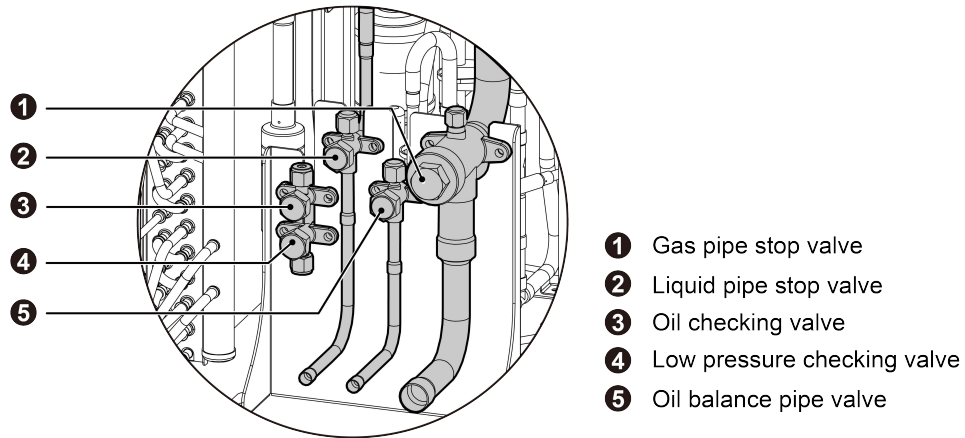

Fig.42
- (2) When there are more than 2 outdoor units, air purging from the nozzle located on the oil balance valve. Confirm outdoor oil balance valves are closed. See Fig.42.